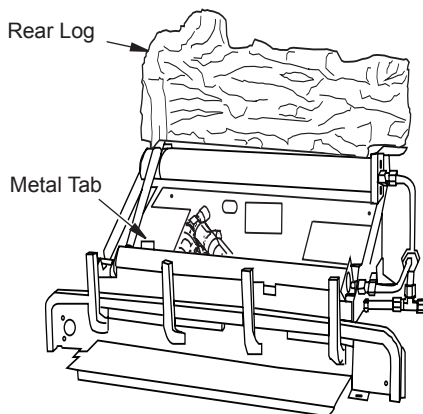

Figure 38 - Installing Rear Log
- Place rear log in back corner sections of base assembly as shown in Figure 38. The rear log is designed to lean back slightly when installed correctly.